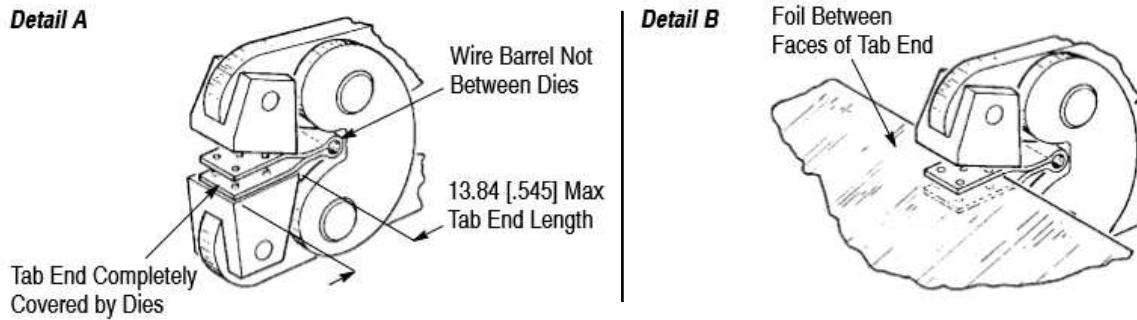

Figure 4
2. Place the tab end of the terminal between the crimping dies as shown in Figure 4, Detail A. **Make sure the tab end is completely covered by the dies.** DO NOT place the wire barrel between the dies.
3. Place the foil between faces of the tab end of terminal as shown in Figure 4, Detail B.